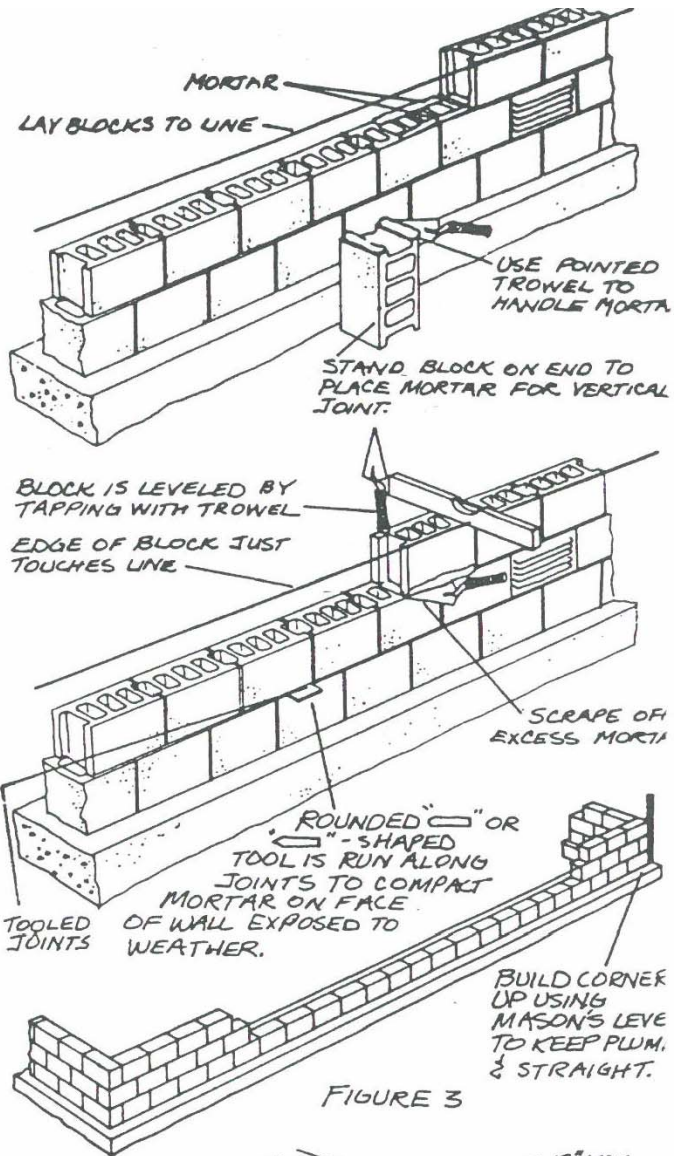
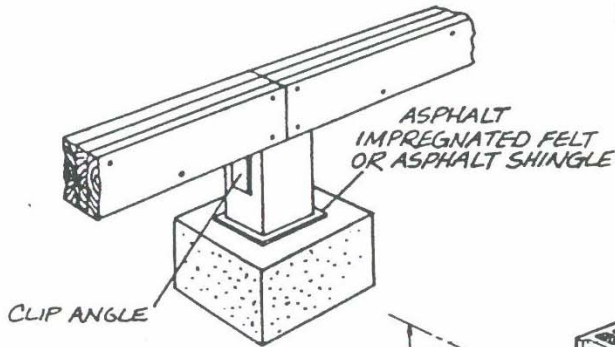

FIGURE 3
FIGURE 1
6. Once all posts are in place, lift girders and place them on top of posts. Girders should be cut so that butt joints fall over the center line of a supporting post (see Figure 1). Trim the two end girder sections to allow for a 1/2 in. space between foundation and girder (Figure 3). At this point it may be valuable to plumb and brace the posts and girders with 2 x 4's and stakes, until floor joists are installed.